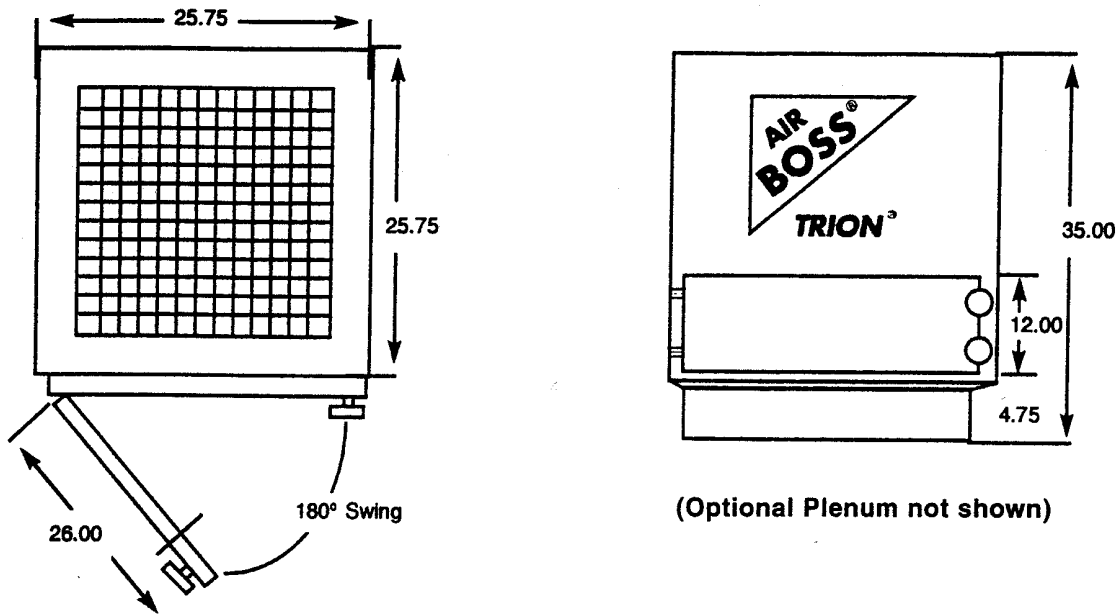

Figure 2: Dimension and Access Data
1. Provide sufficient clearance in front of the access doors for mechanical filter replacement. A minimum of 26" is required (see Figure 2, page 3).